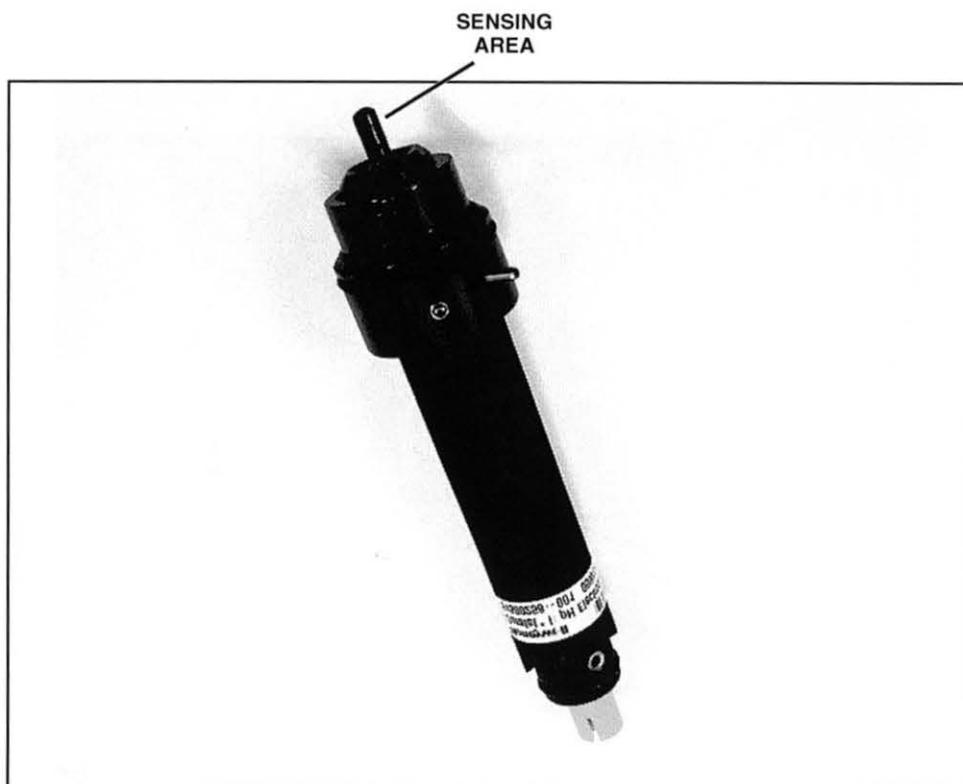

Figure 62. The Sensing Area of the Electrode
C. When the electrode is completely removed from the fitting, examine the sensing area, shown in figure 62.